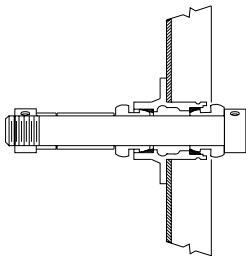

Figure 11
C. Install collet for inner bearing race on arbor. **See Figure 11**. Mount the drum (to be machined), the collet for outer bearing race, and necessary spacers to fill arbor past mounting surface. Install arbor nut and tighten by hand. This will center the drum on the collets. Using 90578 Spanner Wrench, tighten arbor nut snugly. If drum touches housing, place a spacer on arbor between inner collet and arbor shoulder.